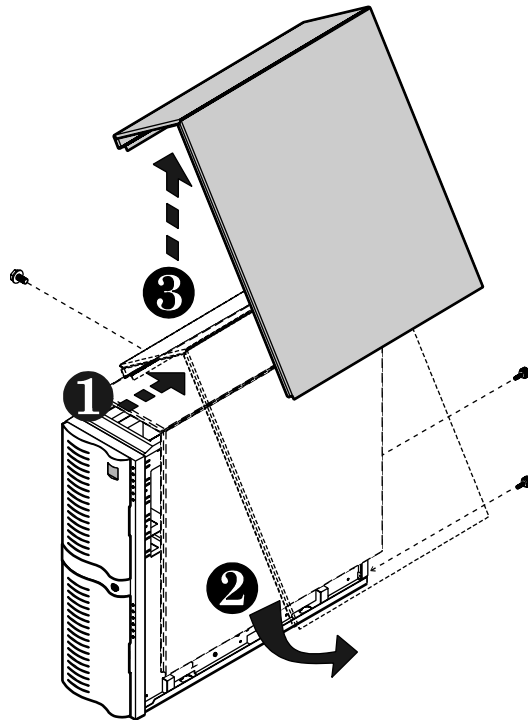

Figure 2: Removing the Wrap-Around Panel
3. Remove the two screws from the rear of the system and the screw at the top of the system that secure the panel to the chassis (see Figure 2).
5. Lift the bottom of the panel outward so that its top is angled on the chassis, as shown in Figure 2.